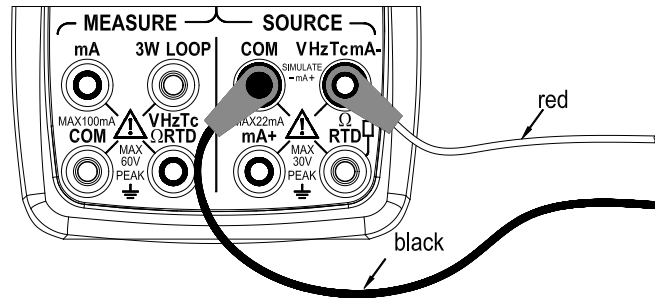

Figure 5 Sourcing DC voltage, TC, frequency, pulse and switch
**For DC voltage, thermocouple, frequency, pulse or switch (Figure 5)**